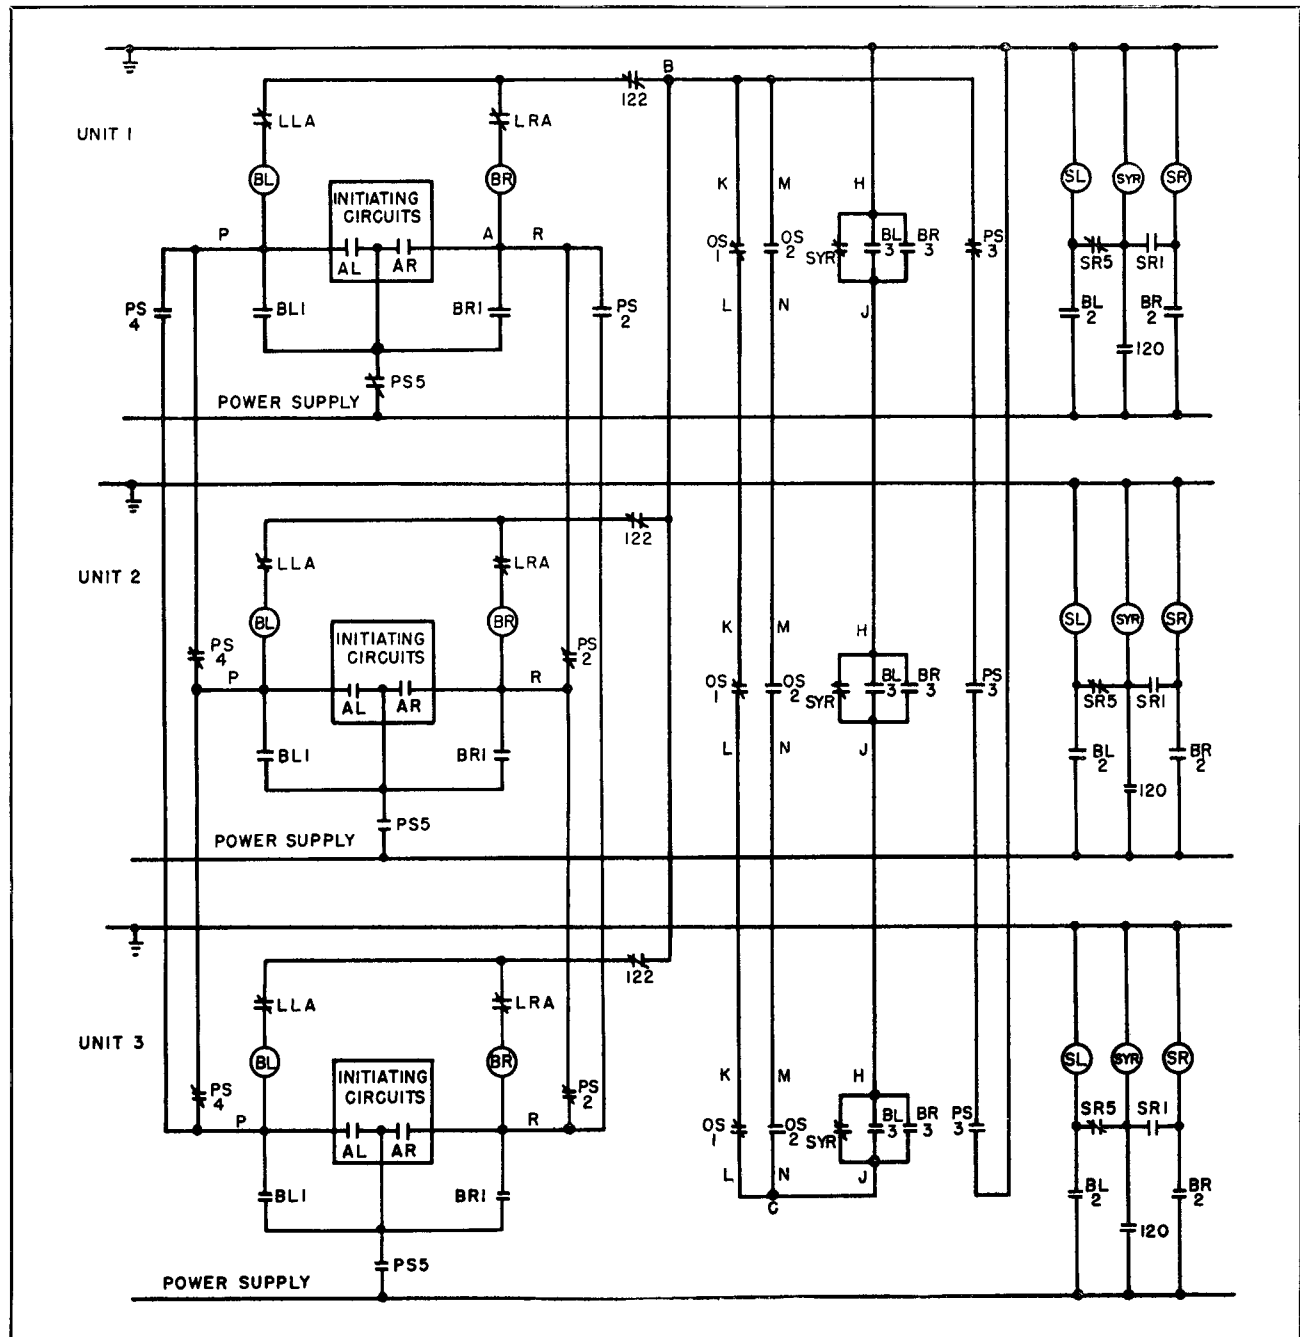

FIG. 1. Schematic Diagram of Out-of Step Switch Control.
Fig. 1 shows a schematic diagram of the connections for parallel operation of three tap changers by out-of-step switch control. It will become evident as the discussion continues that, while three units are illustrated, the circuit will work equally well for two units or for more than three units by simply adding or subtracting identical units.
In Fig. 1, the paralleling switch (contacts PS2, PS3, PS4, PS5) is shown with unit 1 set to be the master unit and units 2 and 3 to be follower units. The cam operated switches, OS1, OS2, LRA, LLA, 122, 120, are shown for an odd numbered position of the tap changer. (For an even numbered position, OS2 would be closed instead of OS1. For position 1, only, LLA would be open. For the
maximum boost position only, LRA would be open). All relays are shown de-energized. The box marked "initiating circuits" represents all equipment, manual and automatic, for controlling the tap changer operation; that is, manual control switch, voltage regulating relay, line drop compensator, time delay relays. The relays shown as "SL" and "SR" represent the motor control relays or contactors which complete the circuits to the motor to cause tap changer operation. Details of the initiating and motor control circuits are given in other instruction leaflets. Fig. 1 shows a type 1 out-of-step switch.
Referring to Fig. 1, the sequence of operations of the controls is as follows:
2. For prolonged maintenance making it undesirable to keep an operator on duty, the unit being serviced may be removed from the bank by leaving the unit on "parallel", but connecting points K to L, M to N, and H to J and opening leads P and R as shown in Fig. 1. These connections are shown on the wiring diagram furnished with the tap changer.